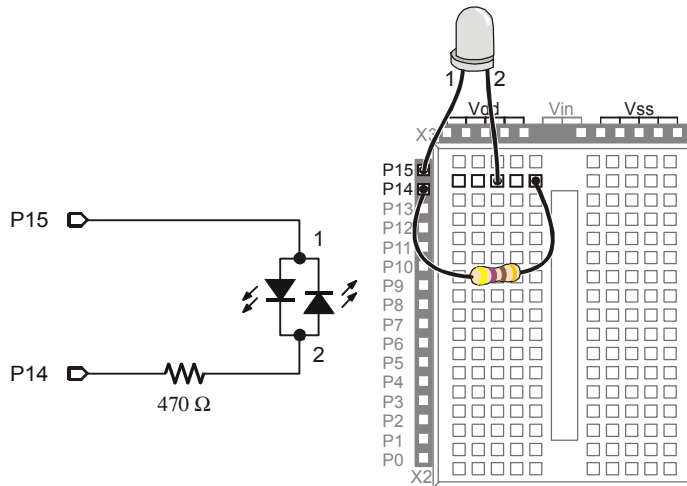

Figure 2-19
Controlling a bi-color LED with the BASIC Stamp requires two I/O pins. After you have manually verified that the bi-color LED works using the manual test, you can connect the circuit to the BASIC Stamp as shown in Figure 2-19.
- √ Connect the bi-color LED circuit to the BASIC Stamp as shown in Figure 2-19.